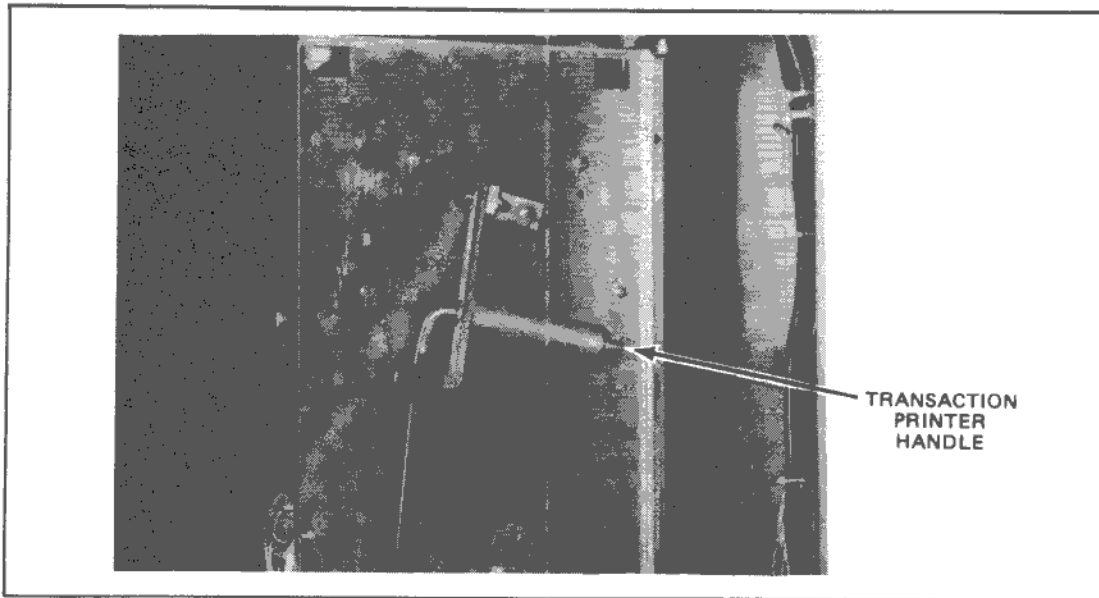

Figure 3-22. Accessing the Transaction Printer
2. Pull the handle attached to the printer mechanism base plate and rest it on the base of the compartment. (Refer to figure 3-22.)